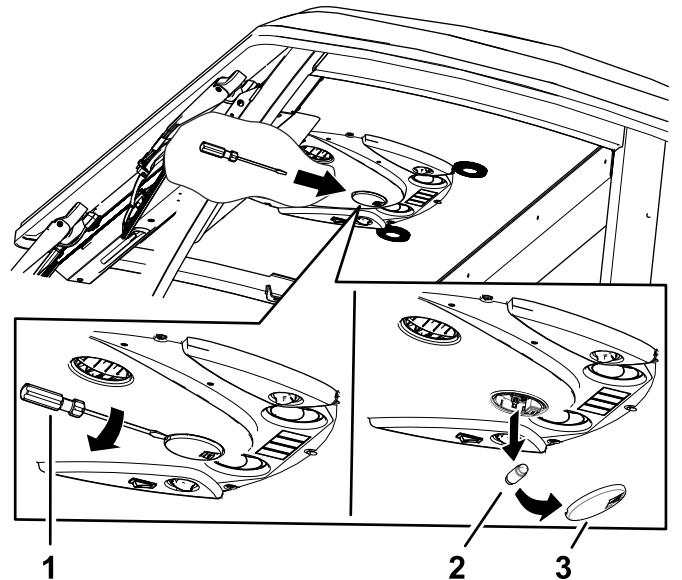

Figure 118
1. Use a screwdriver to remove the light lens from the control panel. (Figure 118)
2. Remove the bulb from the light base (Figure 118).